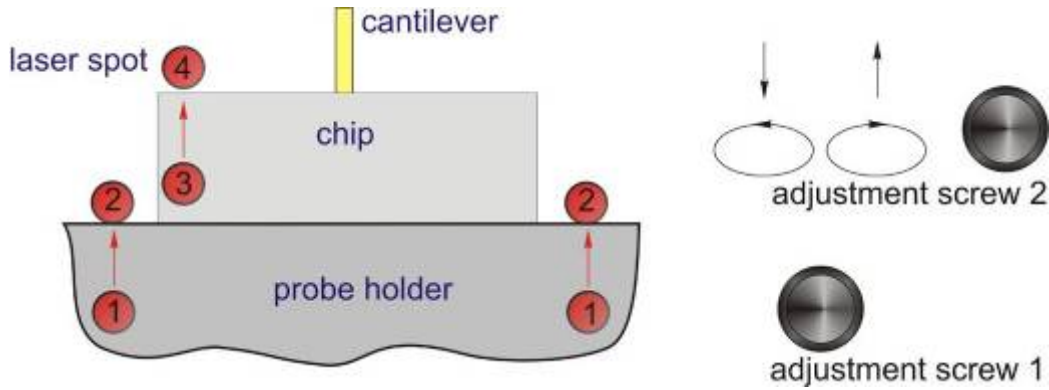

Fig. 2-90
2. If there is no laser image (case c) or the distorted image is seen on the screen (case b), move the spot in the direction from the holder perpendicular to the holder front edge until the undistorted laser image is seen on the paper screen. Position the spot just near an edge as shown schematically in Fig. 2-90 turning screw 2 clockwise. Then notice the spot approx. position.
- Next, start turning adjustment screw 2 clockwise. The spot will move towards the chip front edge or the probe holder front edge. This is shown schematically in Fig. 2-90 as a travel from locations 1,3 into locations 2,4;
- In the process of travel, the laser image will change to undistorted one at a certain moment. This indicates that the laser beam is falling off the probe holder edge or the chip edge (Fig. 2-90, locations 2,4);